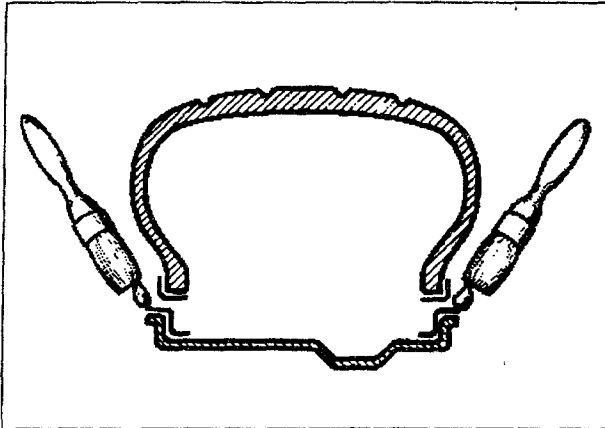

Fig.45
4. Lubricate both beads and the rim surface (Fig.45).